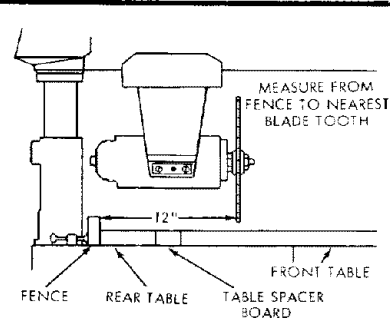

Figure 39
fence should be at extreme rear and the blade positioned as shown in figure 39. With 12 inches measured between the fence (when in full rear position) and face of saw blade, the rip-scale indicator should be positioned to read 12 inches on the upper portion of the "Out-Rip" scale.
**NOTE:** With the saw blade and fence in the position shown in figure 39, the upper portion of the "Out-Rip" scale is used. If the fence is moved to normal position (at the rear of front table) the lower portion of the "Out-Rip" scale is used.